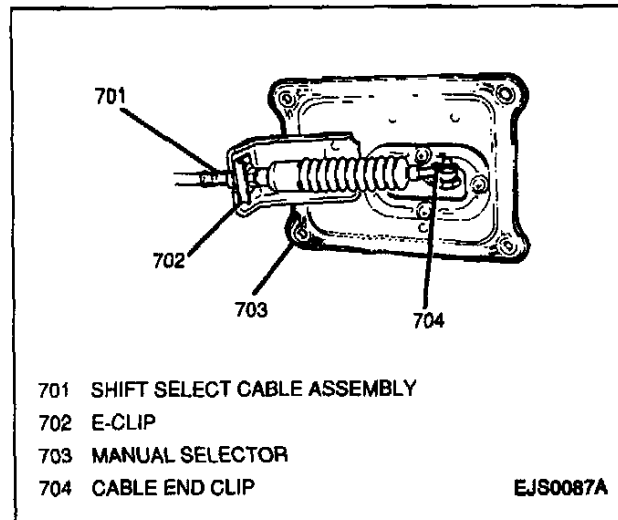

Figure 9—Shift Select Cable at Manual Selector
7. Retaining clip, washer, E-clip and shift select cable from selector lever (Figure 9).
10. E-clip from shift select cable bracket on transmission and shift select cable from vehicle (Figure 9).
5. Shift select cable to selector lever; secure with E-clip, washer and retaining clip (Figure 9).